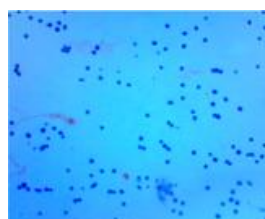

Figure 6: Example of trypan blue stained fixed cells.
- Examples of stained fixed cells are shown below. High quality fixed samples have single distinct cells/nuclei with <5% aggregation and no debris. Higher levels of aggregation will lead to elevated doublets after sequencing and may indicate a poor quality cell/nuclei isolation. When quantifying fixed cells/nuclei, it is critical to avoid counting debris to avoid overestimating the number of cells/nuclei (Figure 6).